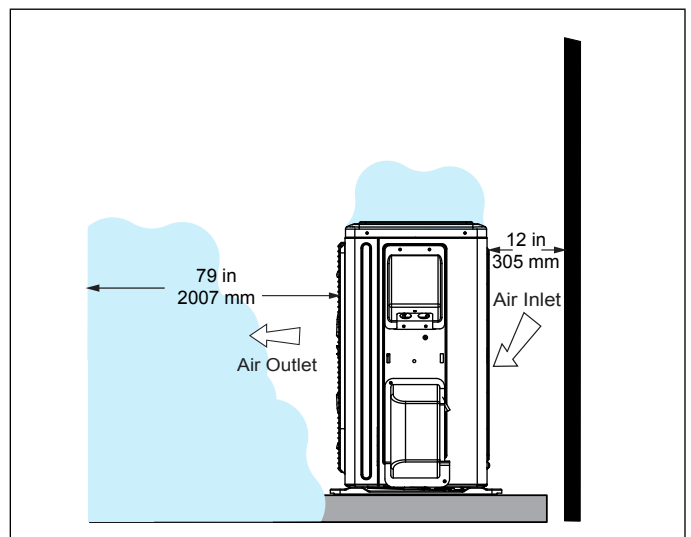

Figure 21. Outdoor Unit Air Flow Obstructed by Snow
- In heavy snow areas, do not place the unit where drifting will occur as illustrated in “Figure 21. Outdoor Unit Air Flow Obstructed by Snow”